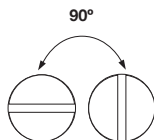

Figure 1
2. **Double measurement method:** This method involves performing two thickness measurements near a single spot rotating the ultrasonic sensor from 0° to 90° with respect to the split face (Figure 1). Take the smaller of the two indicated values as the thickness of the material.